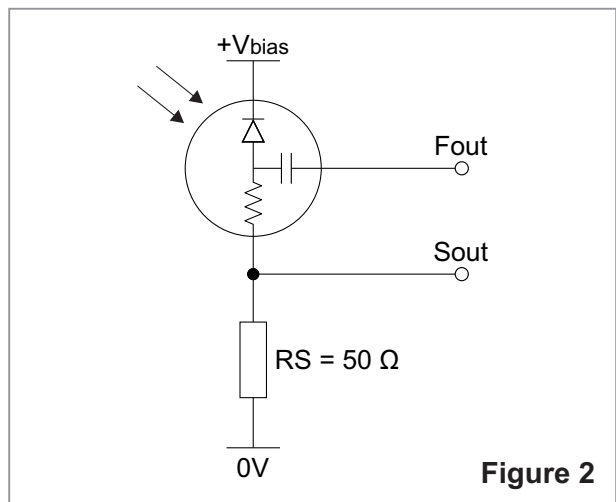

Figure 2
2) There is no need to use a preamplifier. Signal can be monitored directly from the anode of the MacroPixel connected to the ground through a 50 Ohms (up to a 1000 Ohms) resistor (Figure 2). At +30 V bias a typical pulse corresponding to 3000 keV deposited energy is about 200mV in amplitude and 20 μ s long for SC-14x25c-SiPM-T.